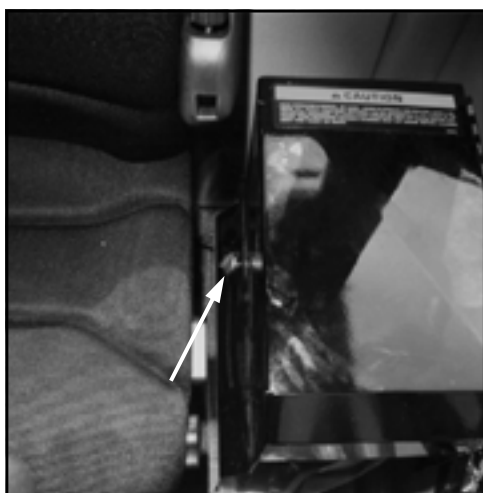

FIG 5.97
**STORAGE CONSOLE “CIGARETTE LIGHTER” TYPE** - The cigarette lighter power point is located to the left of the operator’s seat on the side of the floor-mounted storage console (fig. 5.97). Replace the insulated plug when not in use. Cigarette lighter power supply is protected by a 30 AMP circuit breaker (see page 94).